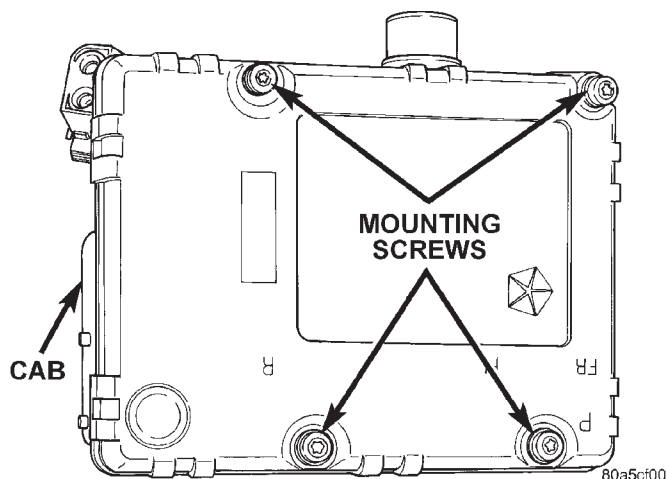

Fig. 14 CAB Mounting Screws
- (1) Remove pump motor connector from the CAB.
- (2) Remove CAB mounting screws from the HCU (Fig. 14).
- (3) Remove CAB from the HCU.